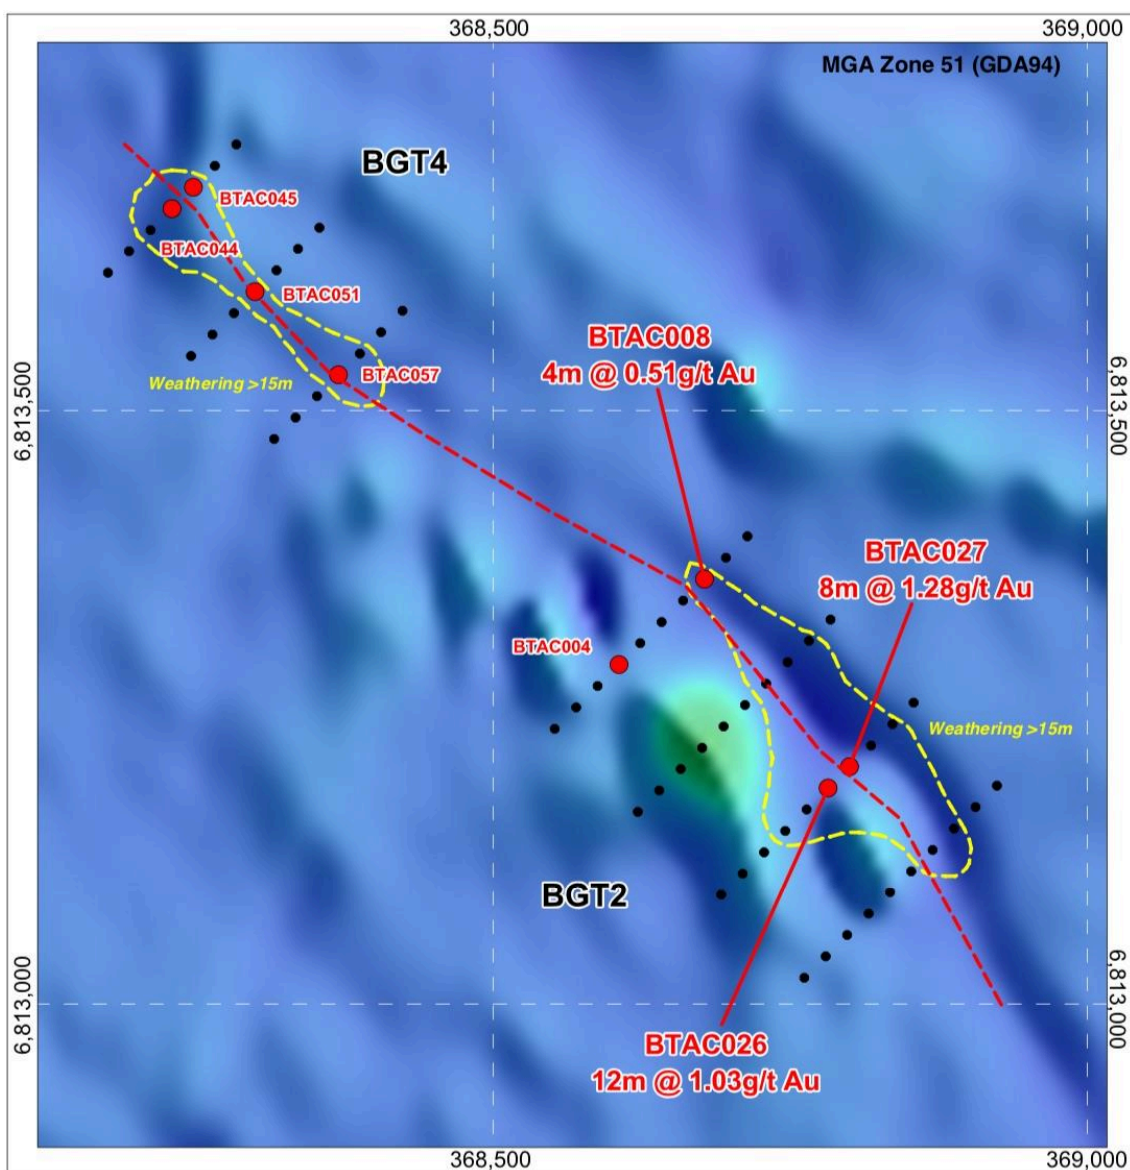

Figure 2: Aircore drilling at targets BGT2 and BGT4 (RTP1VD magnetics)
Assay results from the program highlight a number of significant intersections of gold mineralisation (Appendix 2) that appear to define a mineralised trend over approximately 900m strike length. The mineralisation is associated with a felsic volcanic unit, within an assemblage of andesite and basalt, intermediate to mafic volcanics. Quartz veining, disseminated pyrite and potassic alteration was observed associated with the felsic volcanic unit, near the contact with the surrounding andesite. An increased depth of weathering was also encountered along the mineralised trend (Figure 2). Golden Mile notes these factors can be associated with mineralisation at Kin Mining's neighbouring Cardinia project (ASX:KIN, 27 August, 1 September, 2 September and 14 September 2020).
*Enhances Gold Targets, 2 July 2020*) show a magnetic anomaly associated with the BGT2 target area (Figure 2). This magnetic feature appears somewhat similar to the magnetic anomaly seen associated with mineralisation at Kin Mining’s Cardinia Hill prospect (*refer to ASX:KIN, 24 July 2020*).